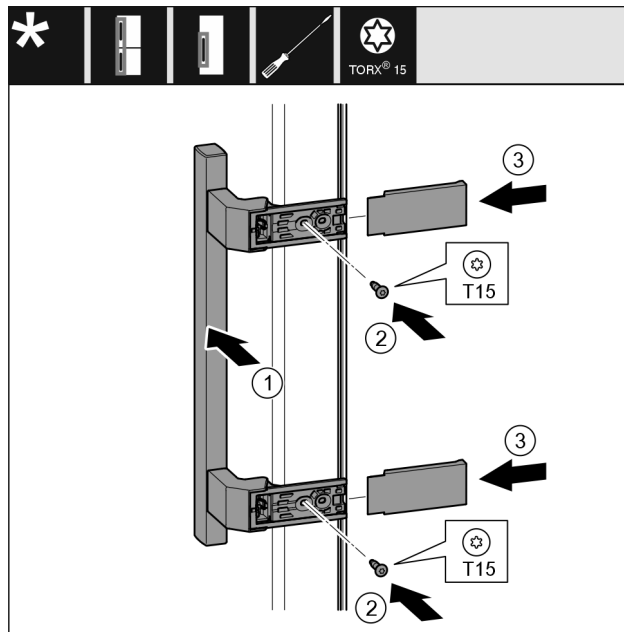

Fig. 20
- Place the handle Fig. 20 (1) on the opposite side.
- Tighten screws Fig. 20 (2) with screwdriver.
- Place the covers Fig. 20 (3) on the side and push them on.